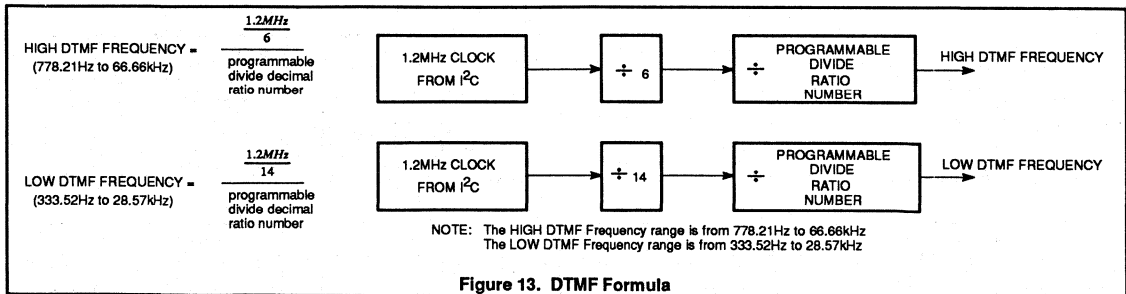

Figure 13. DTMF Formula
The DTMF generator generates its tones by using the 1.2MHz I²C clock and dividing it down to the desired frequency. There are high and low DTMF tones, so different divide ratios are used. To tailor the exact frequency, a programmable divide ratio number is provided to the designer. Figure 13 shows the basic scheme and the formulas to calculate the desired DTMF frequency.
Step 2: Use formulas in Figure 13 to calculate the programmable 'divide ratio number' for both High and Low tones.
- Using the formula in Figure 13, High DTMF 'divide ratio number' = 50 Low DTMF 'divide ratio number' = 28
- Calculate 'divide ratio number' using the formula in Figure 13, High DTMF 'divide ratio number' = 257 Low DTMF 'divide ratio number' = 2, by definition for OFF see Table 8.